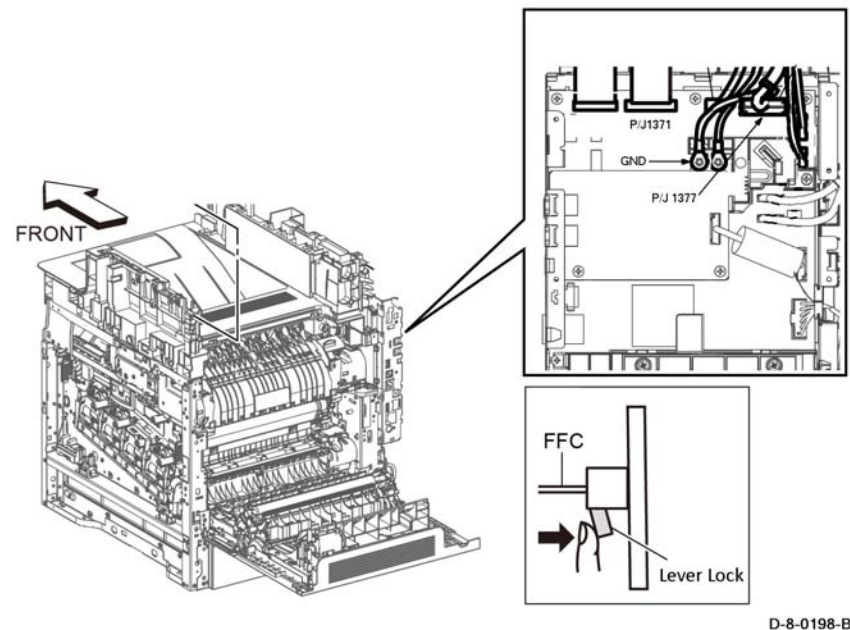

Figure 3 Disconnect the DADF harness and FFC (C605_Tall)
NOTE: When engaging the release lever on the FFC connector, slightly press open the release lever no more than 15 degrees. Hold the lever while gently removing the FFC from the connector as shown in the inset of Figure 3, Disconnect the DADF harness and FFC.
1. Refer to Figure 3, following the caution above, release the FFC (P/J1371) coming from the DADF, disconnect (P/J1377), and the ground wire from the ESS PWB, PL 18.1 Item 3.